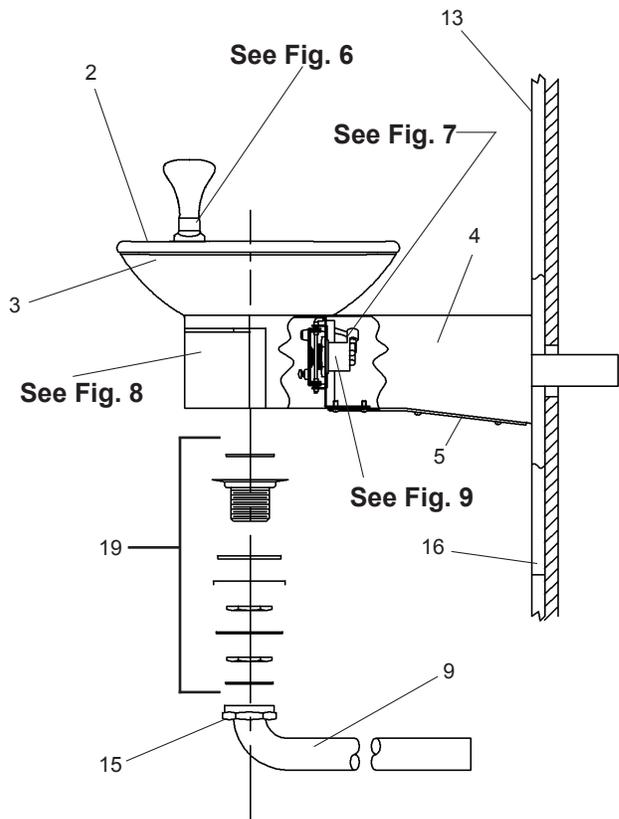

**Figure 7**
14. **Check stream height from bubbler.** Stream height is factory set for 35-40 PSI supply. If supply pressure varies greatly from this, remove items 6,7, and 8) (push arm and the bottom and the top actuator plates - (Fig. 8) by removing the screws holding assembly together and adjust the screw on the regulator (Item 11 - Figs. 7 & 9). Clockwise adjustment will raise stream height and counterclockwise movement will lower stream height. For best adjustment, stream height should be approximately 6-1/2" (38mm) above the bubbler guard. Reassemble the pushbar (Fig. 8).